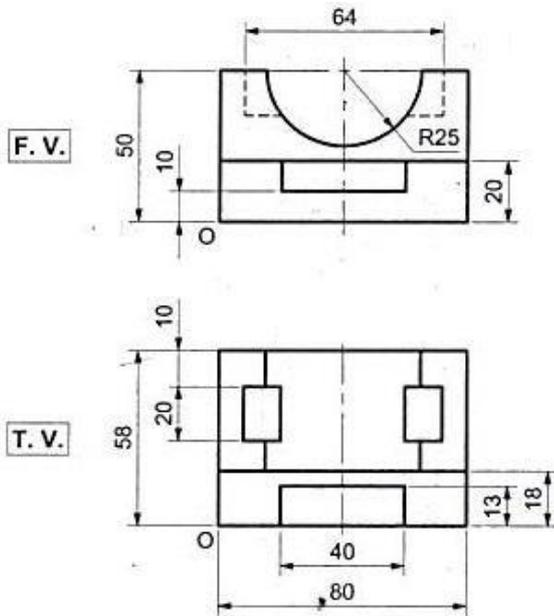

Fig. 1
2. Fig.1 shows Front View and Top View of an object. Draw Isometric Projection.